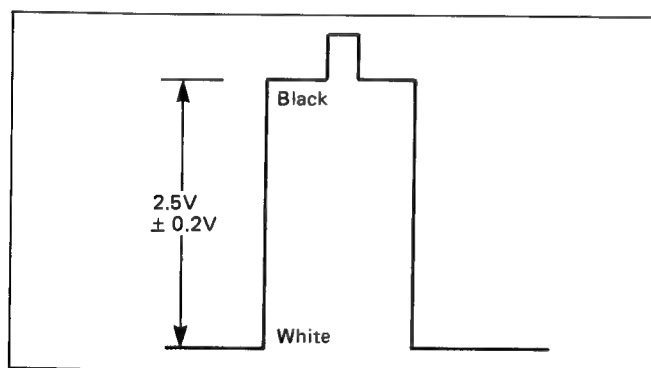

Fig. 21
- Adjust Sub Contrast control VR (R1103) to achieve $2.5V \pm 0.2V$ on the oscilloscope as shown in Fig. 21.